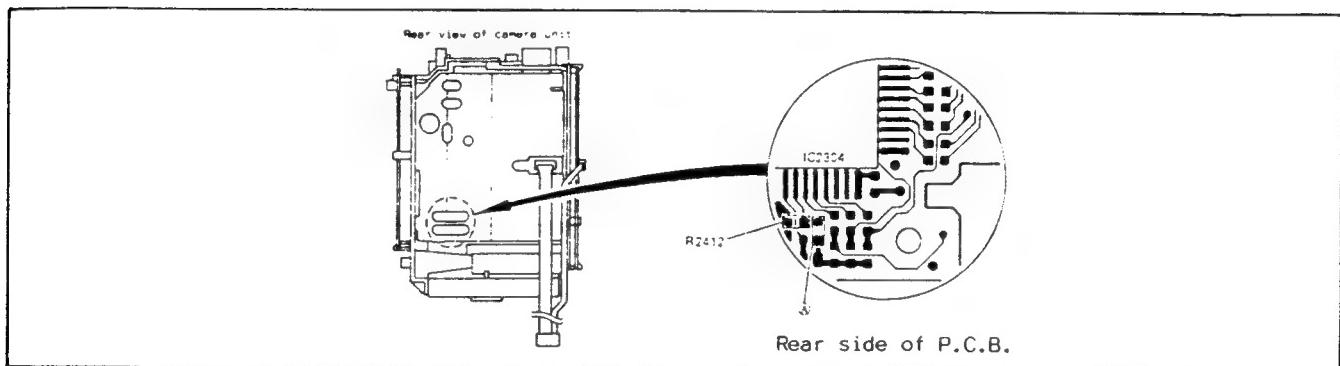

Fig. II-3 Setting for manual adjustment
- 2) Remove the PROCESS (2) P.C.B.
- 4) Reconnect the PROCESS (2) P.C.B., and reassemble other sections to set the condition shown in the Fig. II-3.